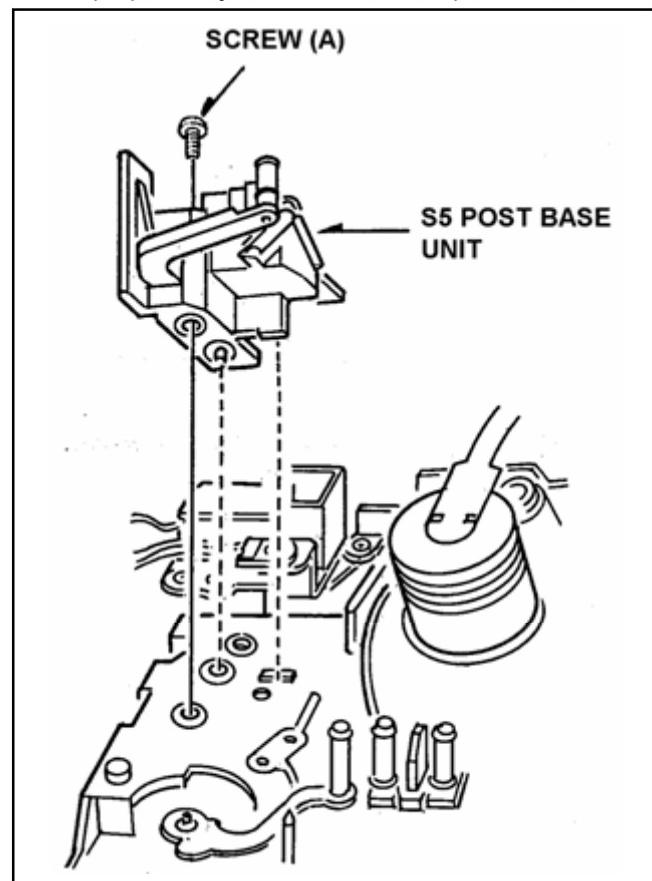

Figure 5-17-1
1. Unscrew the screw (A) and remove the S5 Post Base Unit as shown in Figure 5-17-1.
- Note: Be careful the S5 Post Base Unit is installed to mech. chassis as shown in Figure 5-17-1.**